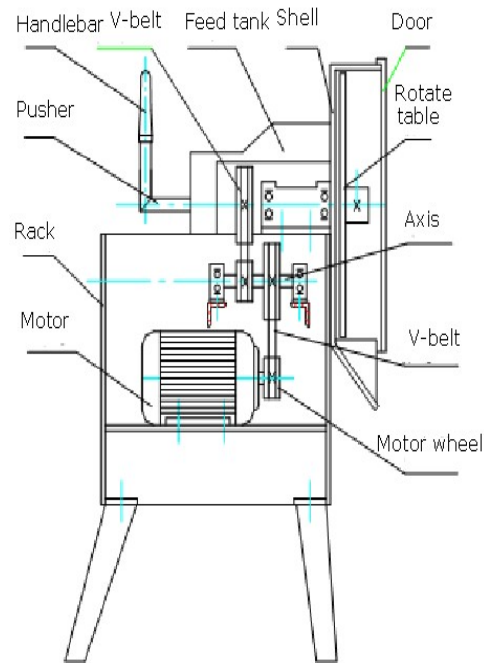

Fig. 2 Pusher type
2.1.2 Multi-function vegetable cutter of pusher type is consisted of rack, rotary cutter head, transmission part, feeding part, and so forth. It is suitable for processing bigger slices of vegetable (such as potatoes, lotus root, radish, cucumber etc.) (see Fig. 2)
2.2.2 While using pusher type, the vegetable is put into the feeding box, and the pusher push vegetable to deliver it, the high-speed rotation of the cutter slice up the vegetable (see Fig 2).
6.2.2 It is shown in Fig. 2 that there are two types of cutter, one is flake cutter and the other is shred cutter. Flake cutter is fixed on the rotary table